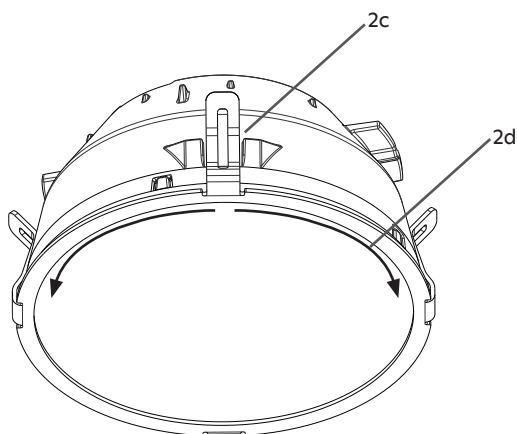

fig. 39
- d. Rotate the optic lens retainer clockwise then counterclockwise to ensure one of the four tabs snaps into position as shown in fig. 39 below.